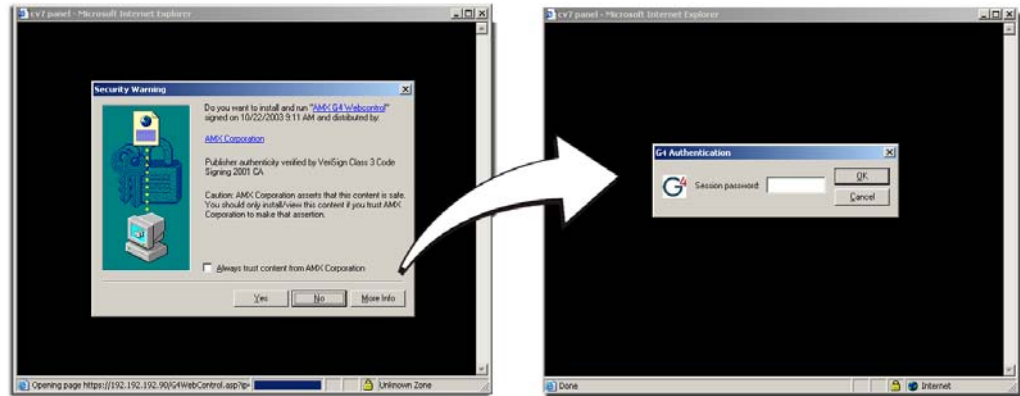

FIG. 45 Web Control VNC installation and Password entry screens
- Click on the G4 panel name link associated with the target panel. A secondary web browser window appears on the screen (FIG. 45).